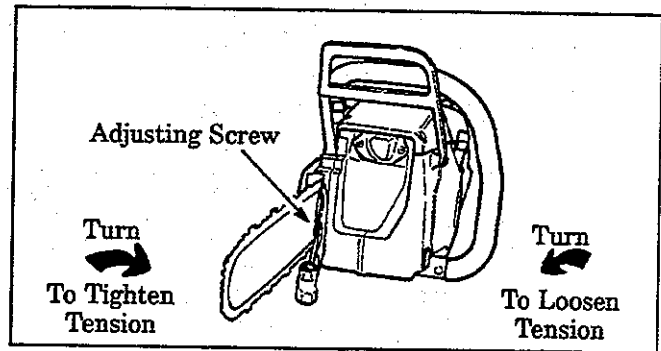

Figure 9
1. Lift up the tip of the Guide Bar and turn the Adjusting Screw clockwise until the chain does not sag beneath the Guide Bar. Figure 9.